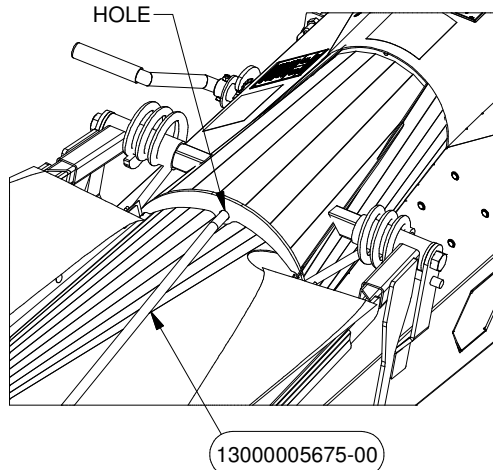

FIGURE 6
13. Insert the end of the Belt Depressor PN# 5675 in to a hole in a flange as shown in Figure 6. Then attach it at the end of the Intake using 1/4 Hex Bolts c/w Washers and Nuts that can be found in Bolt Bag PN# 6026 as shown in Detail F.